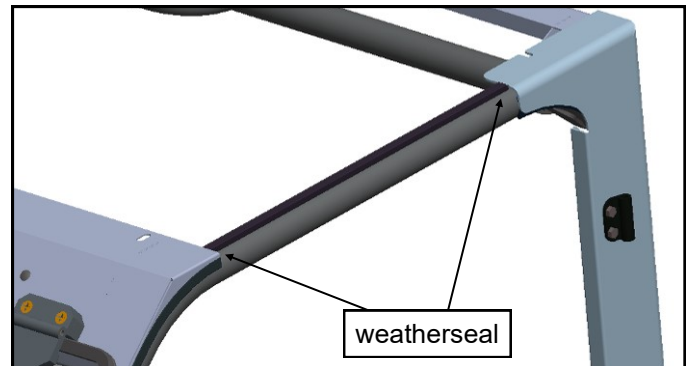

Fig. 12 (apply weatherseal)
12. Per fig. 12, attach a length of 1/2" weatherseal along the top of the ROPS bar on both sides between the windshield support and the rear roof support. Be sure that the ROPS is clean and dry and at room temperature before adhering the weatherseal.